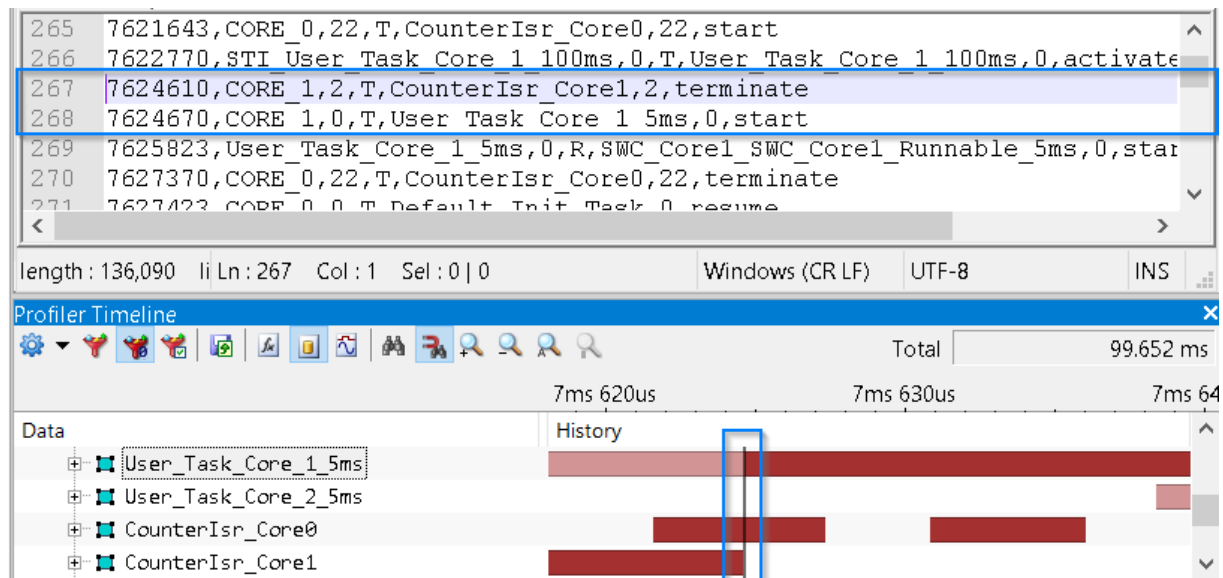

Figure 11: The winIDEA Profiler can export to the BTF format. Multiple timing tool vendors support BTF.
4. The result is a BTF trace, as shown in Figure 11.